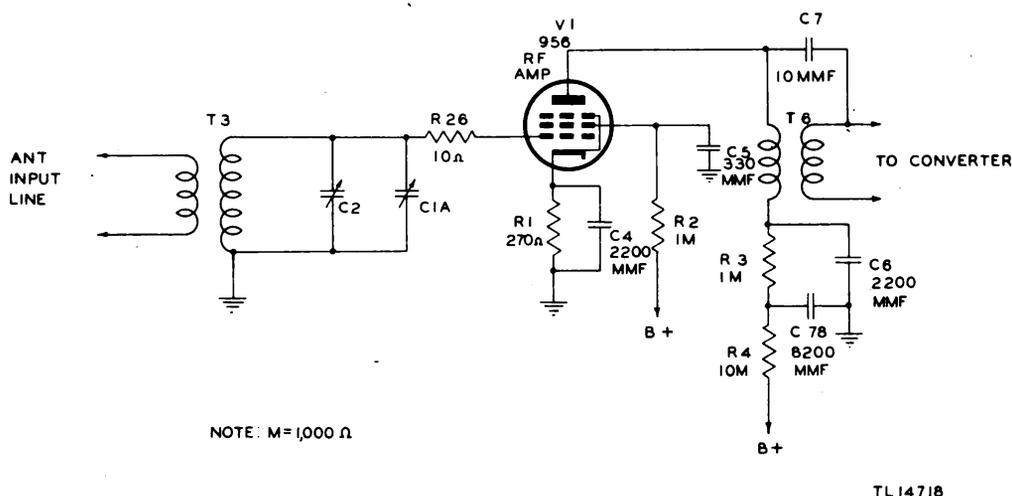

Figure 7. Radio Receiver BC-787-B, r-f amplifier schematic.
**c. R-f Amplifier (fig. 7).** Since the electrical functioning of Bands 1, 2, and 3 are essentially the same, this discussion will describe the circuits with the **BAND SWITCH** at band 3 position. Referring to figure 7, the r-f amplifier employs a type 956 acorn remote cut-off pentode tube. Signals present at the antenna are fed to the primary of transformer T3 through a concentric line. The secondary is tuned by ganged tuning capacitor C1A and trimmer capacitor C2. R-f signals selected by the parallel resonant circuit